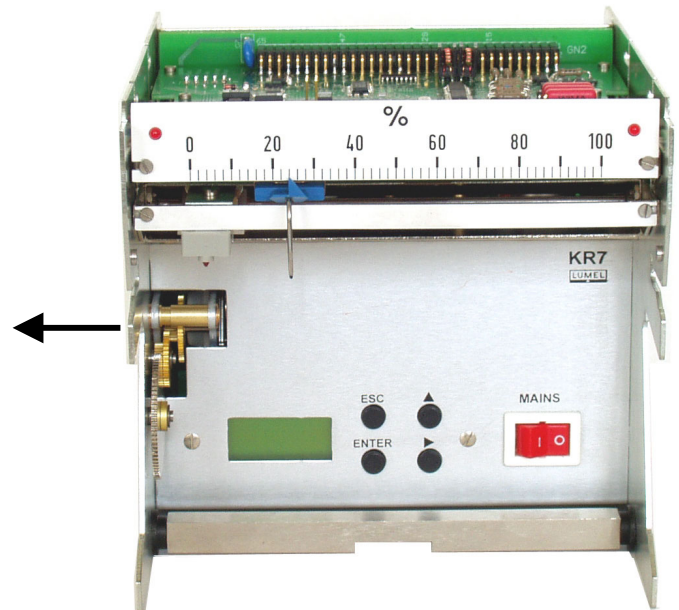

Fig. 4
- Remove two wedges (12) securing the recording tape retractor (11) in the recorder frame during shipping
- Remove the wedge (13) blocking the catch of the recorder frame (Fig.4) in the housing